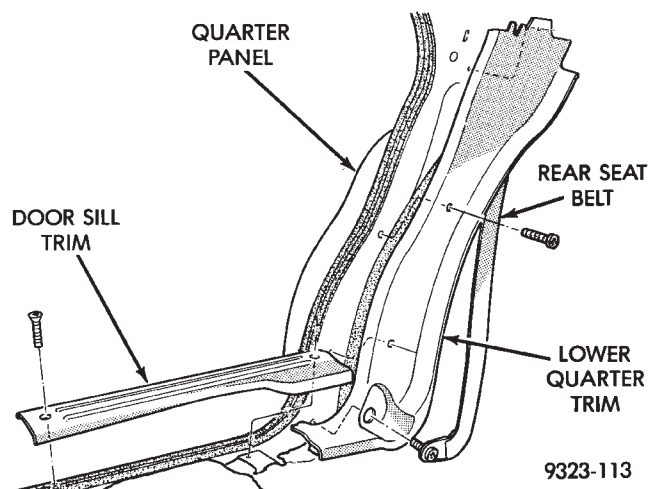

Fig. 60 Lower Quarter Trim
- (1) Remove upper quarter trim.
- (2) Remove rear seat cushion and back.
- (3) Remove bolt holding rear seat shoulder harness to floor at bottom of quarter trim (Fig. 60).
- (4) Remove sill trim as necessary to clear quarter trim removal path.
- (5) Remove screws holding lower quarter trim to inner quarter panel.
- (6) Separate quarter trim from vehicle.